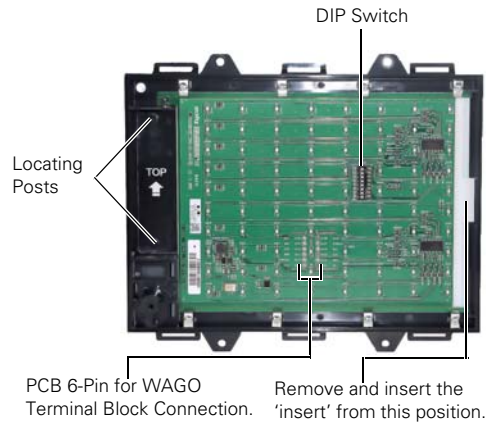

Fig. 15: Zonal Display - Rear View of Front Display
- 1 Inside the front cover of the zonal display, identify the exposed edge of the flexible plastic 'insert' labelled as 'TOP', which is just behind the PCB. Refer to Figure 15.
- 4 On the opposite side of the 'insert'; insert the flat edge of a screw driver under the edge of the 'insert', and lift it clear. Refer to Figure 15.